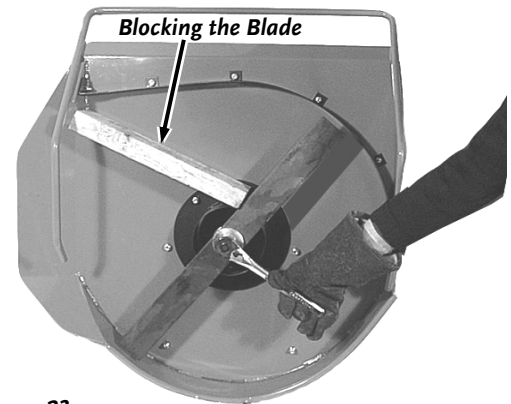

Figure 23
1. Block the Blade with a piece of wood between the Blade and the Skid on the Chute side of the Deck (**Figure 23**).